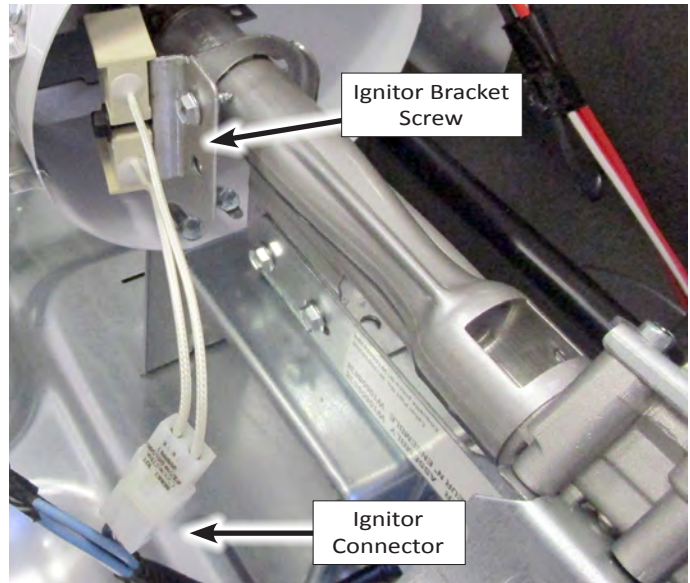

Figure 2 - Removing Ignitor
5. To remove the Ignitor (see Figures 2 & 3):